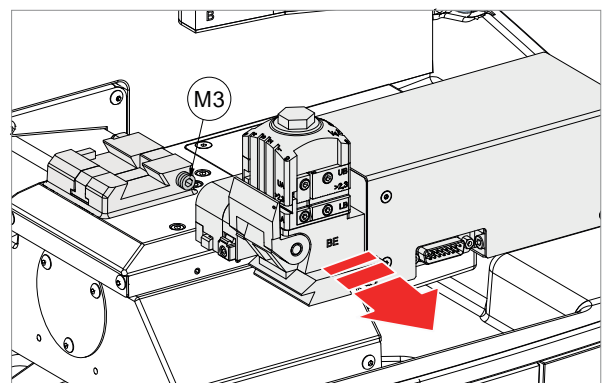

Fig. 143
- 5) Remove the clamp unit from its dovetail groove (Fig. 143).